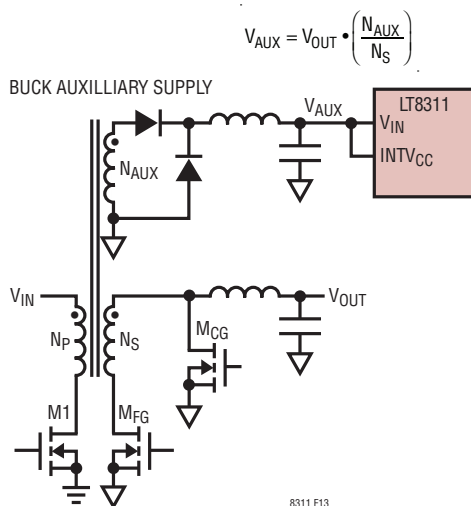

Figure 13. Buck Circuit Generates VAUX Supply, Which Powers LT8311's VIN and INTVCC Pins
3. Use a buck circuit from an auxiliary transformer winding, as shown in Figure 13. This circuit has the benefit of being highly efficient, and is fairly simple to design. It is particularly useful for low output voltage applications (3.3V or 5V) that do not have an external housekeeping supply, and where powering directly from the output voltage is inadequate. In this configuration, the buck circuit's output voltage derives its energy from secondary-side switching pulses that also source energy to the forward converter's main output voltage,  $V_{OUT}$ . Careful consideration must be given to ensure that the buck output voltage comes up well in time, and turns on the LT8311 to provide synchronous and opto control before the forward converter's actual output voltage gets close to regulation. If there is a need to speed up